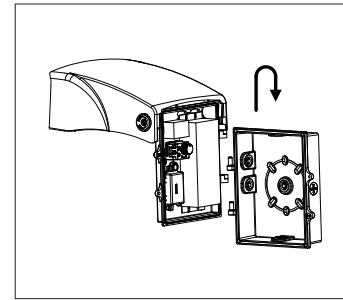
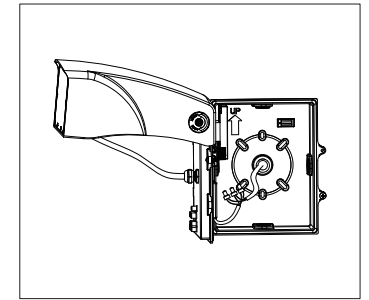

Figure 10
Figure 11
Step 7: Fasten the radiator to the driver box and connect the wires properly ((Figure 10 & Figure 11);